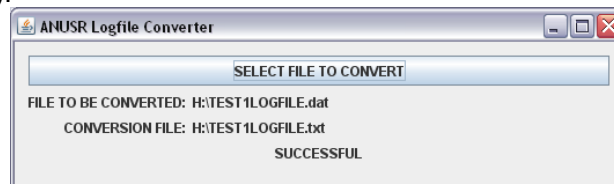

Figure 7.15 - Successful File Conversion
- Once the file has been selected the program will automatically create the file in the same location as the file being converted (see Figure 7.15 - Successful File Conversion).